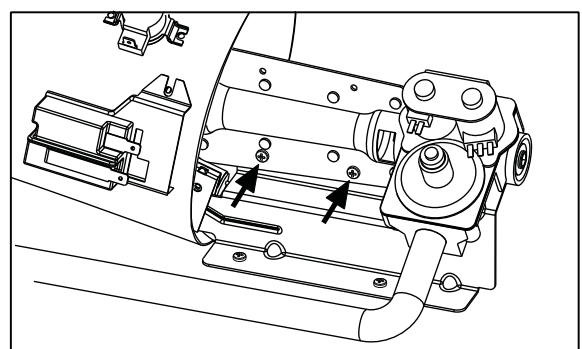

Figure 4
9. Remove the two screws that mount the burner to the gas valve bracket. Remove the burner and set it aside. (Figure 4)